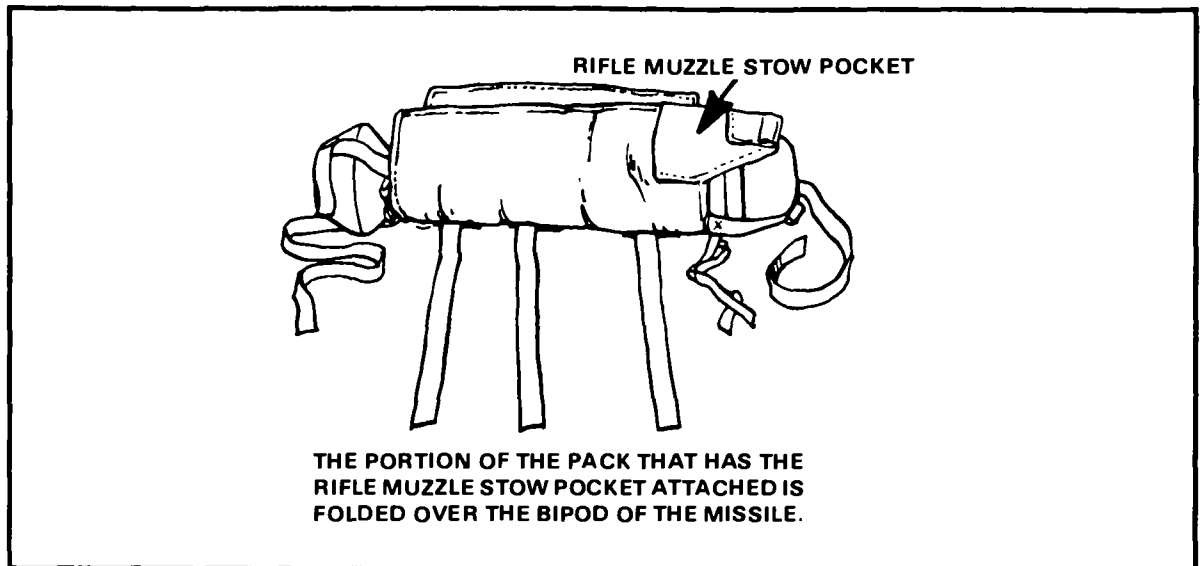

Figure 6-33. Rifle positioned.
(1) Insert a 20-round magazine into the rifle magazine well (optional).
(2) Secure a 30-round magazine to the sling of the rifle, using adhesive tape (optional).
(3) Position the rifle on top of the pack, and on top of the missile bipod by inserting the rifle muzzle into the rifle muzzle stow pocket. The butt of the rifle pistol grip lies along the inner edge of the jump pack (Figures 6-33 and 6-34).